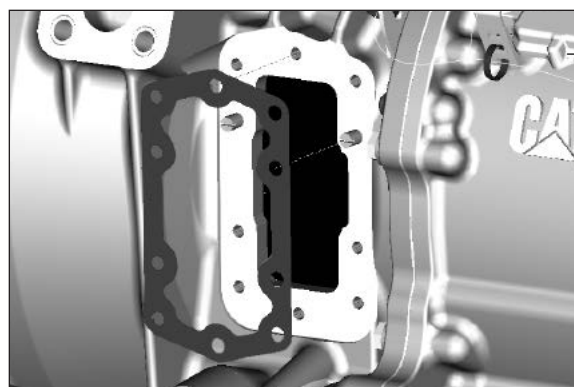

Figure 31
4. Install the special gasket over the guide pins. The ribbed surface should face outward, toward the installer (**Fig. 31**).